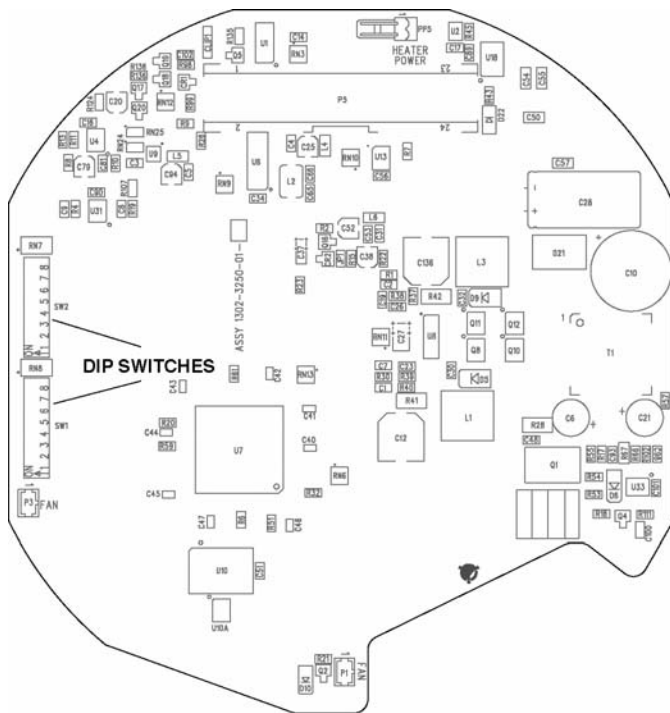

Figure 9
Refer to Figure 9 for DIP switch location and Figure 10 for DIP switch label. DIP switch 1 (SW1) is used to set the address as explained later. DIP switch 2 (SW2) is used to set the mode functions and protocol. Position 1 is the video mode setting, NTSC (ON) or PAL (OFF). Position 2 is the communication mode setting, Vicoax mode (ON) or Serial (OFF). Serial selection enables twisted pair compatibility to other manufacturer's protocol. Position 3 is the communication type setting, SIMPLEX (ON) or HALF DUPLEX (OFF). Position 4 is the protocol mode setting, RS-485 (ON) or RS-422 (OFF). Switches 5-8 select other manufacturer's protocols. Each switch is numbered from 1 to 8 and marked to indicate the ON position. SurveyorVFT will automatically detect the system's baud rate and supports 4800, 9600 and 19,200 kb/sec rates.